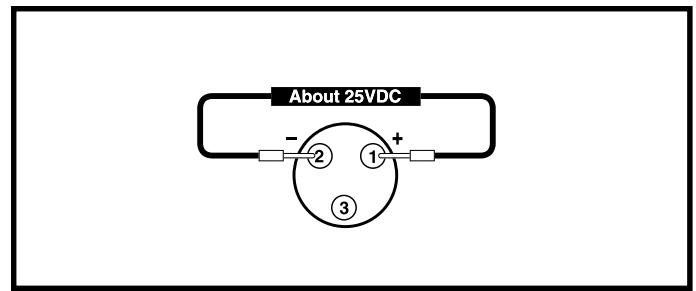
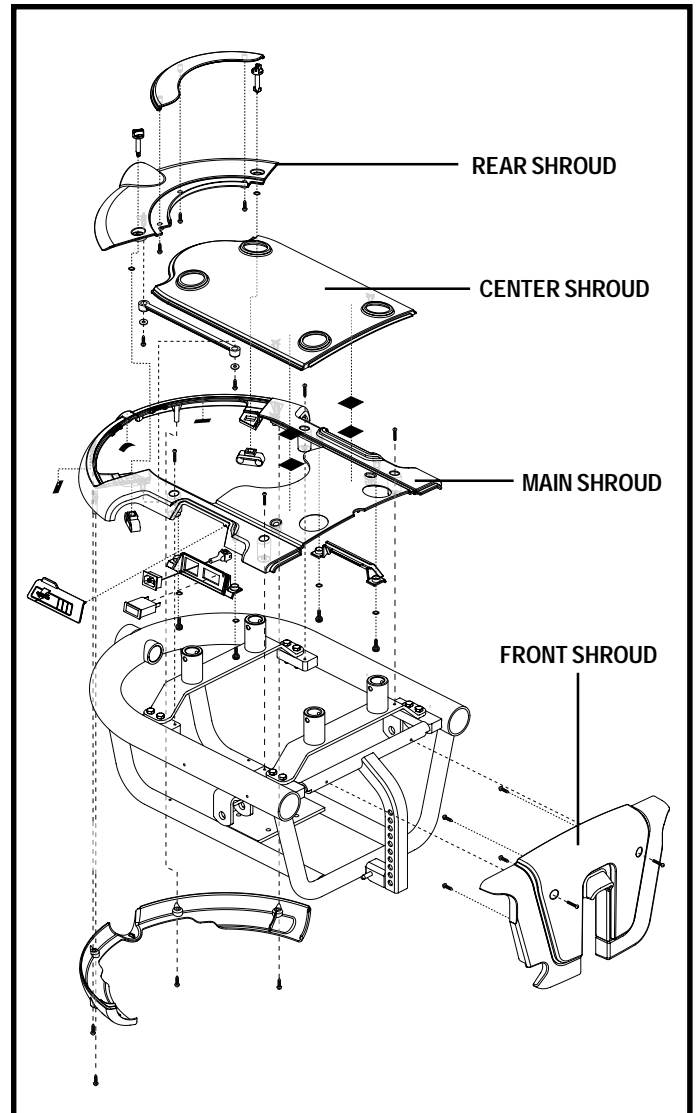
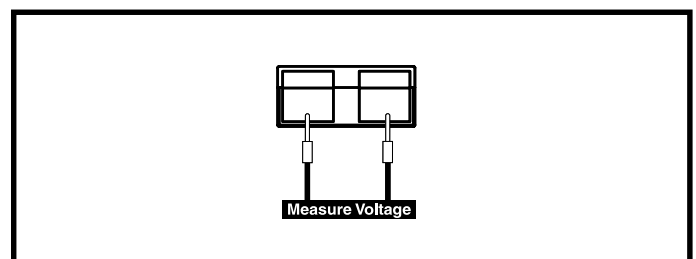

Figure 2. Connector 1a
Figure 3. Jet 3/10 Ultra Shroud Assembly
Figure 4. Connector 2a
1. Measure voltage across pin 1 (B+) and pin 2 (B-) on the off-board charging socket (connector 1a). **See figure 2.**
- If your multimeter indicates about 25VDC, then replace the VSI controller (1) and retest the system.
4. Remove the center and rear shrouds. **See figure 3.**
6. Measure voltage across pin 1 and pin 2 on connector 2a. **See figure 4.**
- If your multimeter indicates 0VDC — 18VDC, then replace the VSI controller (1), recharge the batteries, and retest the system.
7. Remove the main shroud. **See figure 3.**
- If your multimeter indicates about 25VDC, then replace the power interface harness (2) and retest the system.
- If your multimeter indicates 0VDC — 18VDC, then replace the power interface harness (2), recharge the batteries, and retest the system.